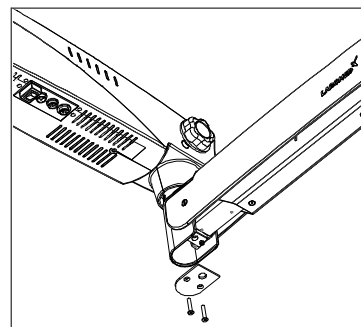

Fig. 18
Refer fig. 18
5. Put back the plates shown in fig 18 in its position